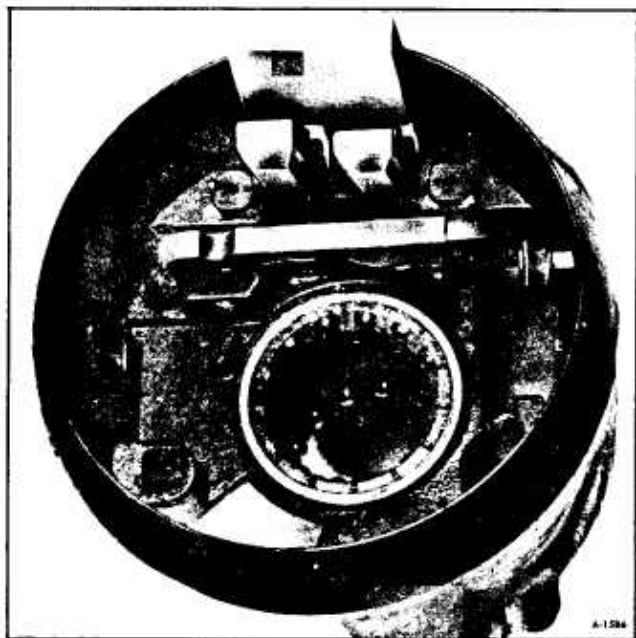

Figure 104—Removing Load on Release Lever
31. Remove tilt release lever pin with pin punch and hammer. Remove lever and release lever spring. (To relieve load on release lever, hold shoes inward and wedge block between top of shoes (over slots and bearing housing) (figure 104).